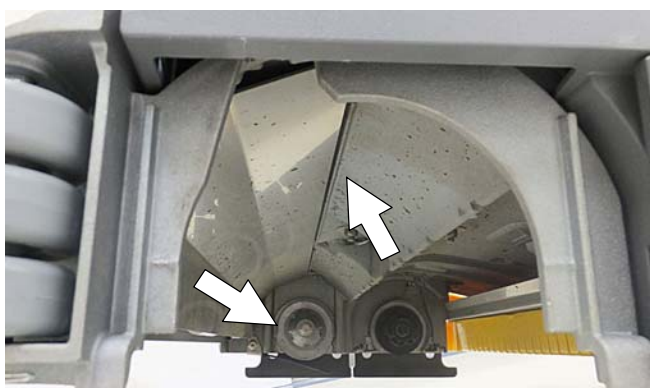

FIG. 113
- Cylindrical scrub head - Remove debris buildup from underside of scrub head, including the idler plates and drive hubs (Figure 113).